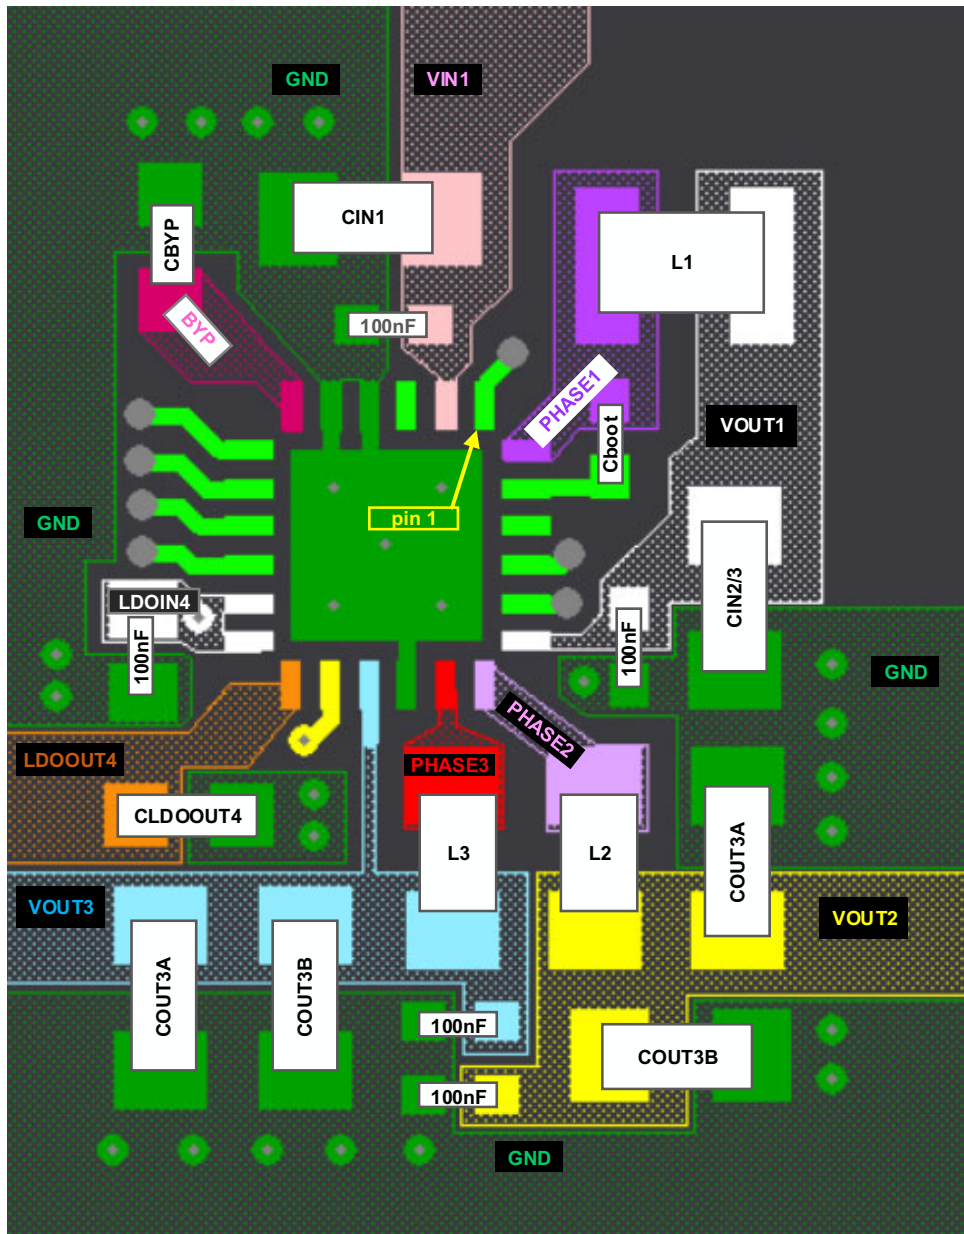

Figure 42. PCB Layout
- Route the feedback for Buck2 on an inner layer, connecting from C_{OUT2} to FB2 (Pin 22). FB2 is a noise-sensitive input. Route the trace so that it avoids passing underneath the inductors L_2 , L_3 , or L_1 , and also avoids passing underneath under the PHASE signals or pins. Renesas recommends routing the trace on an inner layer, going around C_{OUT3} , and then routing to Pin 22. VOUT2 (Buck2 output) and the FB2 pin are shown in yellow in Figure 42 on page 30.